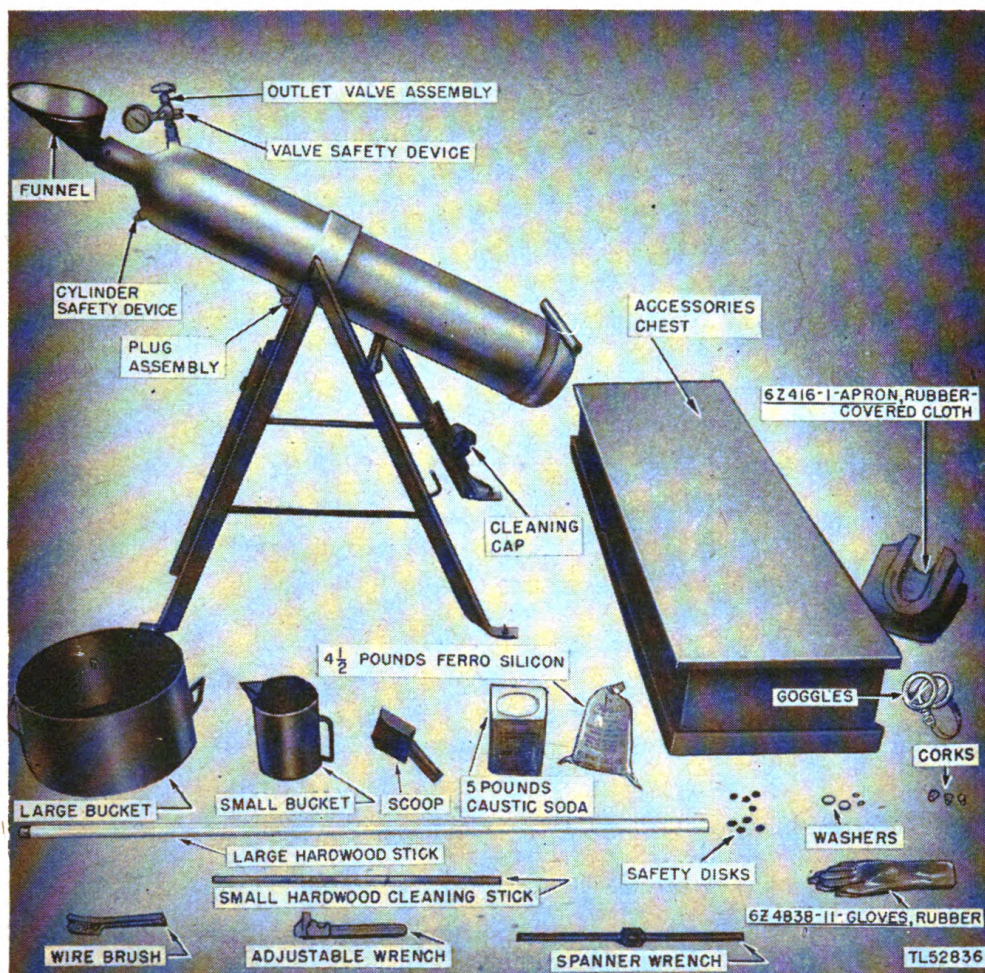

Figure 2. Generator ML-185-(*) (Hydrogen) and accessories, assembled.
a. CYLINDER (FIG. 2). The cylinder is of seamless steel construction and is 56 inches long and $9\frac{9}{16}$ inches in outside diameter.
7. Support Assembly (fig. 2)